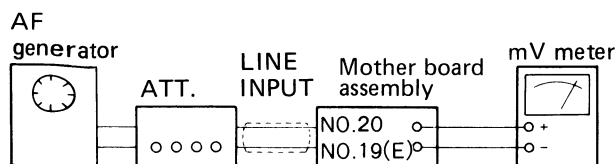

Fig. 49 Connection of rough adjustment of recording current
3. Connect millivoltmeter between terminals No. 20 (left) and No. 19 (ground), and between No. 22 (right) and No. 21 (ground) of the mother board assembly (Fig. 49).